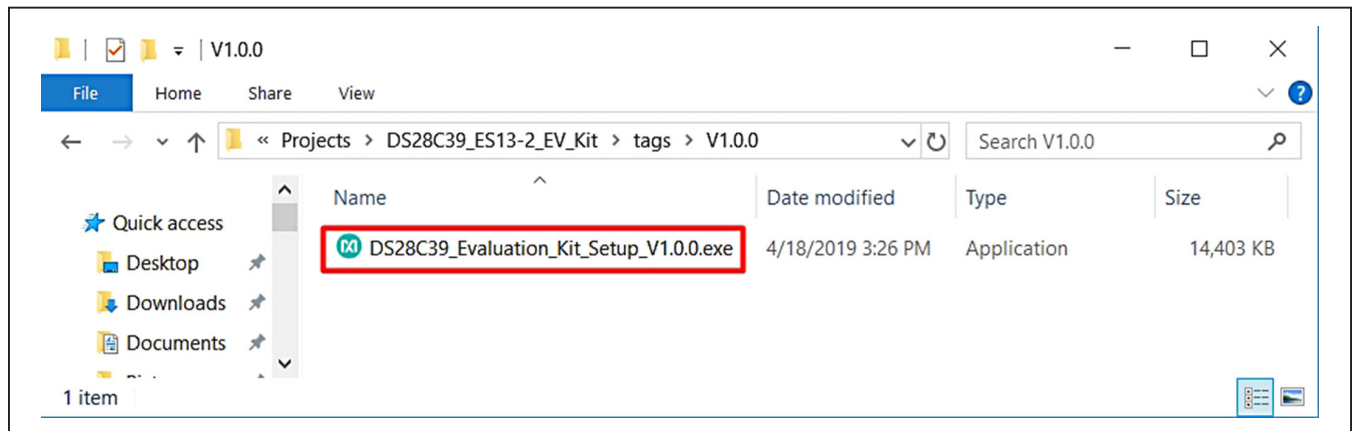

Figure 1. File Viewer
- 2) In a file viewer (Figure 1), double click on **DS28C39_Evaluation_Kit_Setup_V1.0.0.exe** to begin the installation.